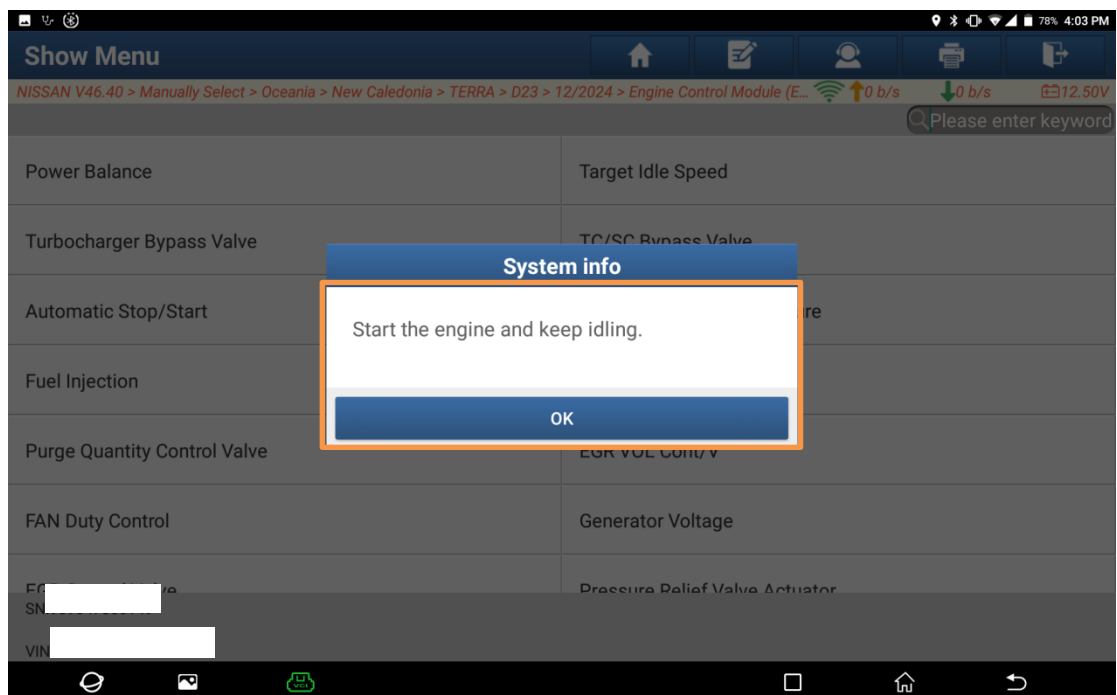

Figure 12
7. Carefully read the prompt in the pop-up window (Figure 12), start the engine and let it idle, and then click "OK" to enter the power balance function interface.